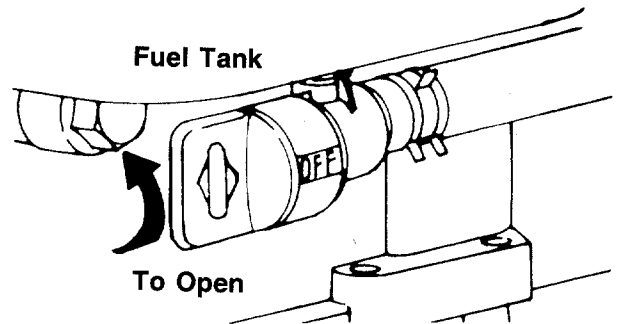

FIGURE 14.
2. **Deluxe Briggs and Stratton engines:** Open fuel shut-off valve. See figure 14.